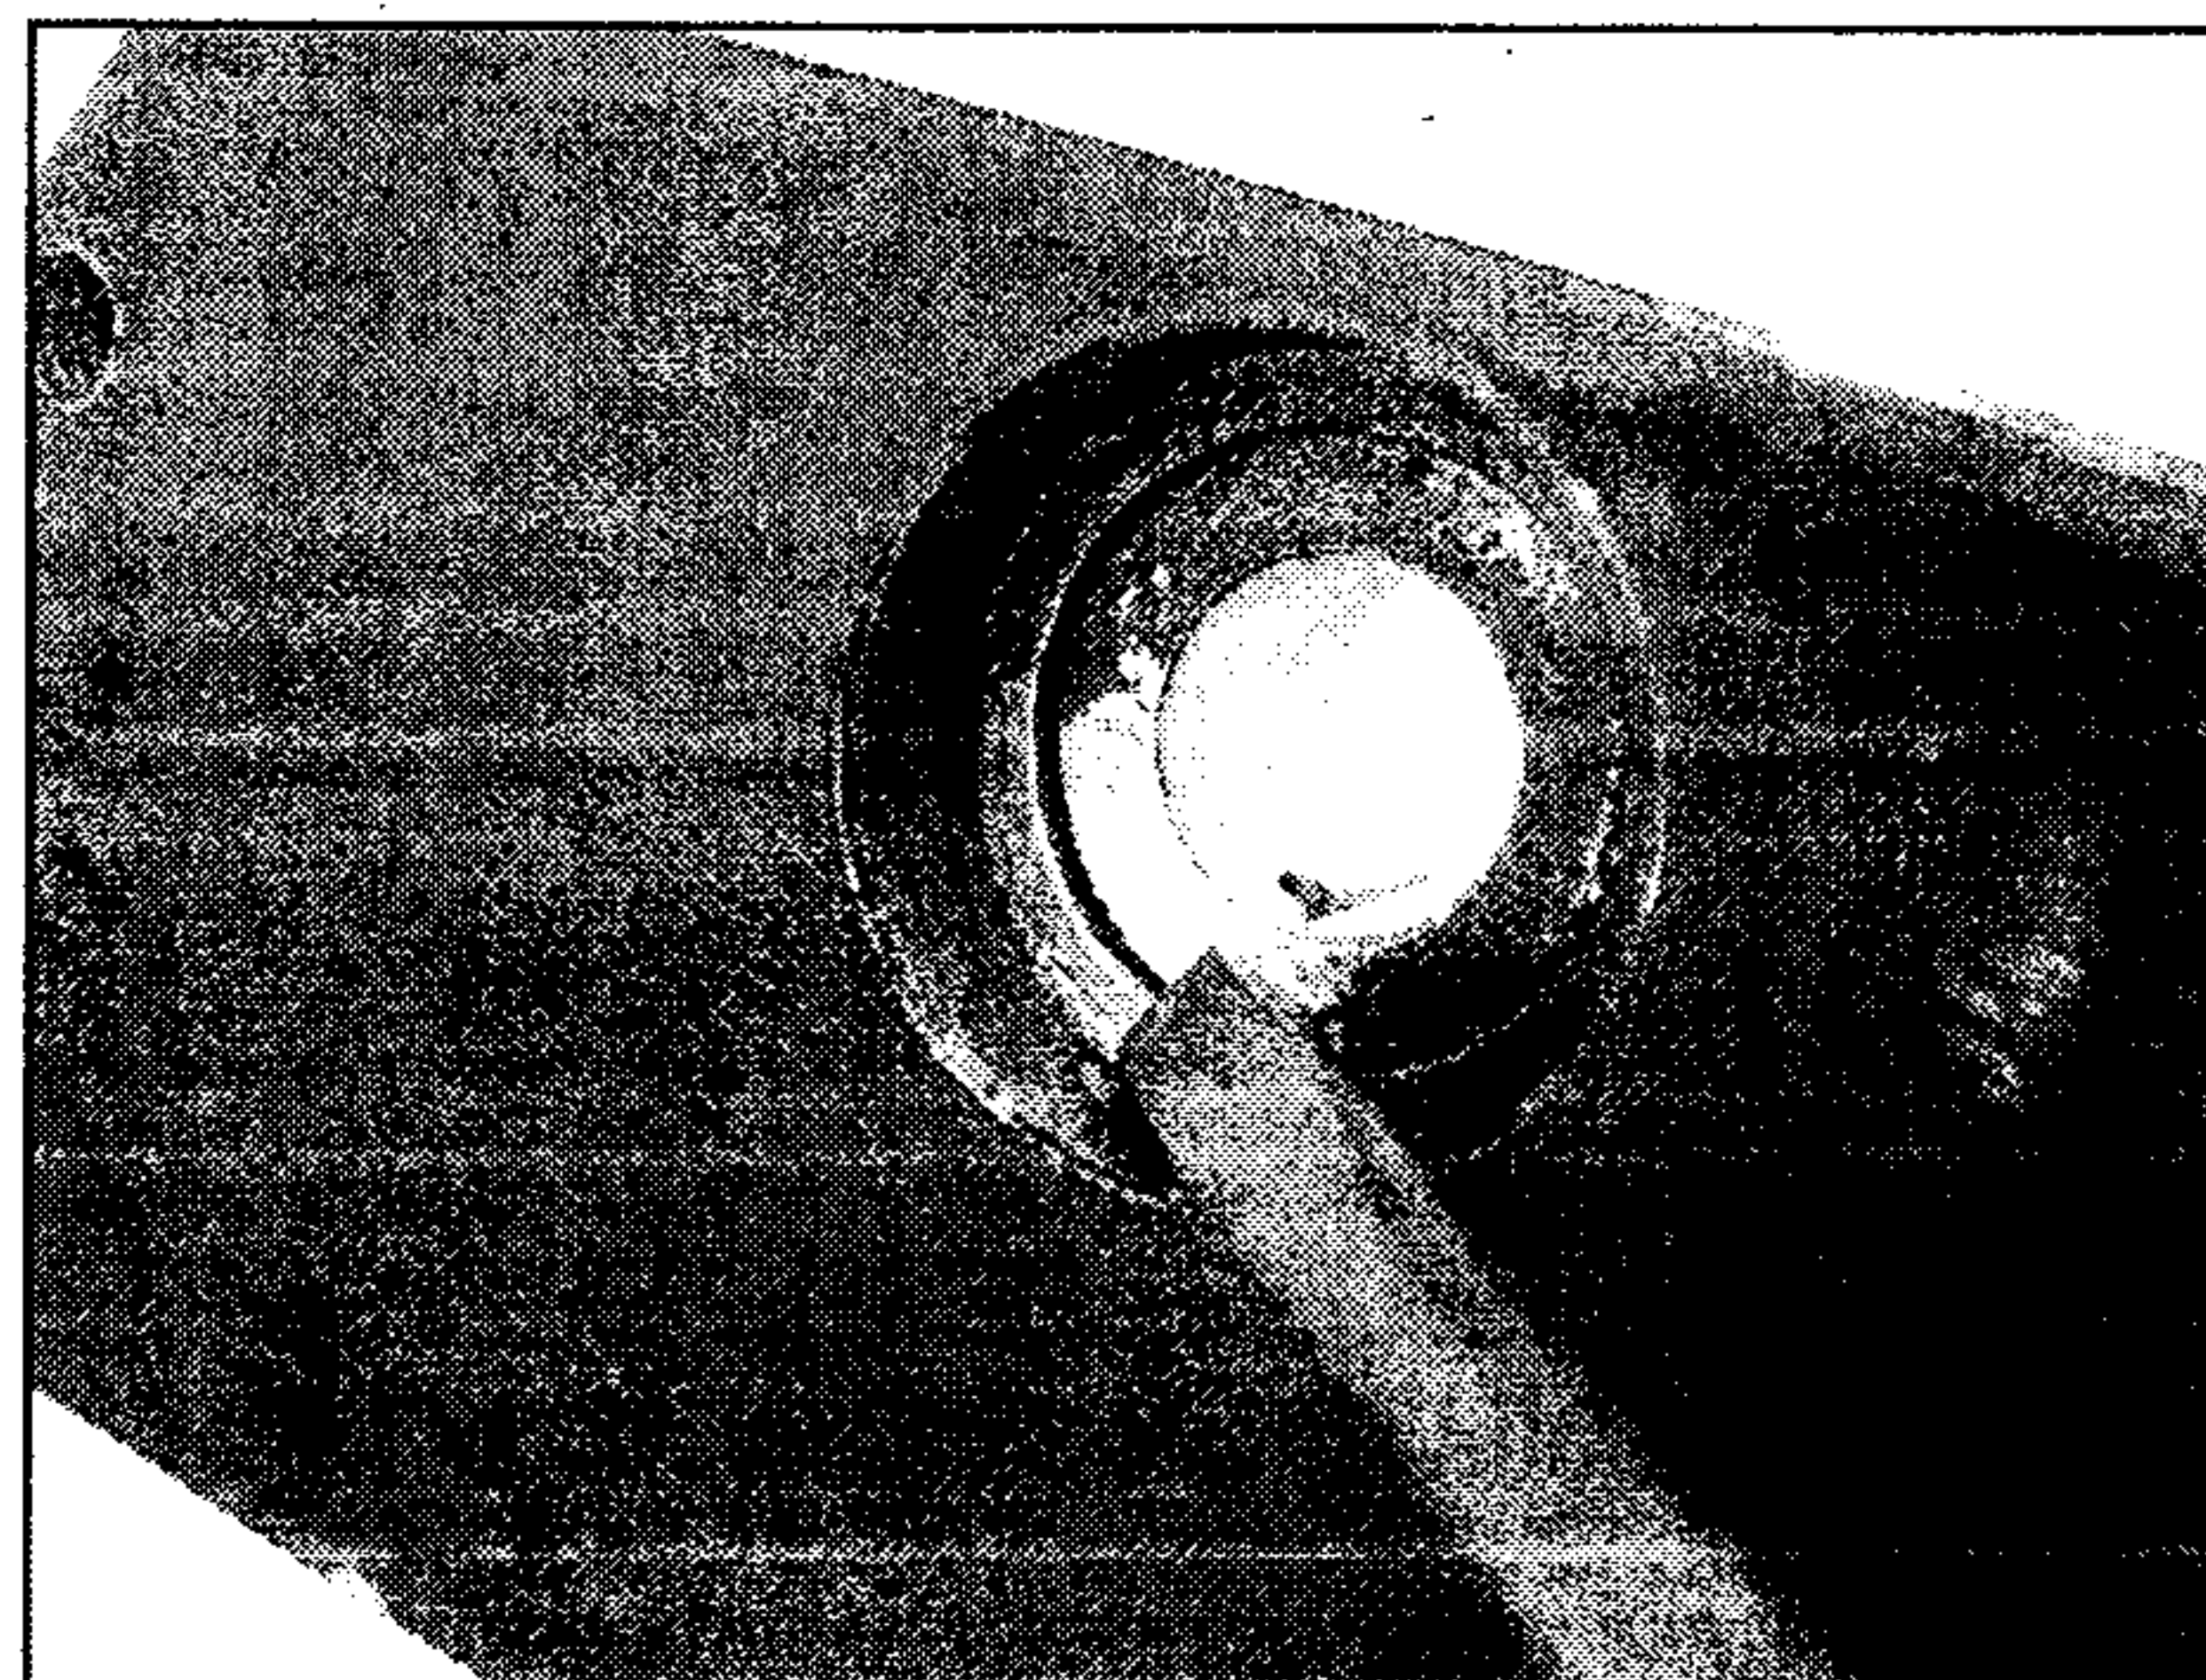

**Figure 10.** End plate surface preparation.
15. Using soft jaws, secure the end plate in a vise with the painted surface facing up (**Figure 10**).